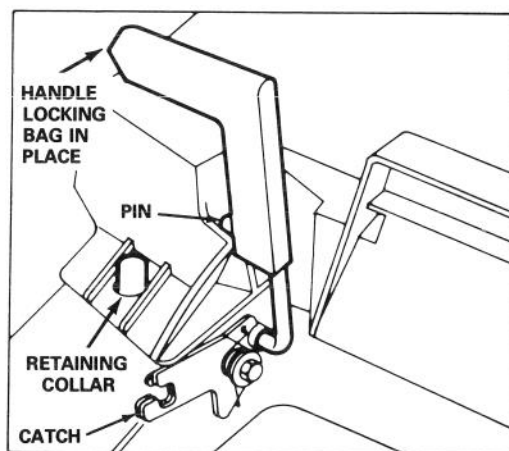

Figure 9
4. INSTALLING BAG — Slide hole in bag frame onto retaining collar on housing (Fig. 9) and set rear of bag frame onto lower handle.
5. Pull chute door handle forward until pin clears catch and move handle rearward until pin locks in bag notch (Fig. 9). Chute door in mower housing is now open. It may be necessary to push down on top right of bag door to release handle locking pin from catch.